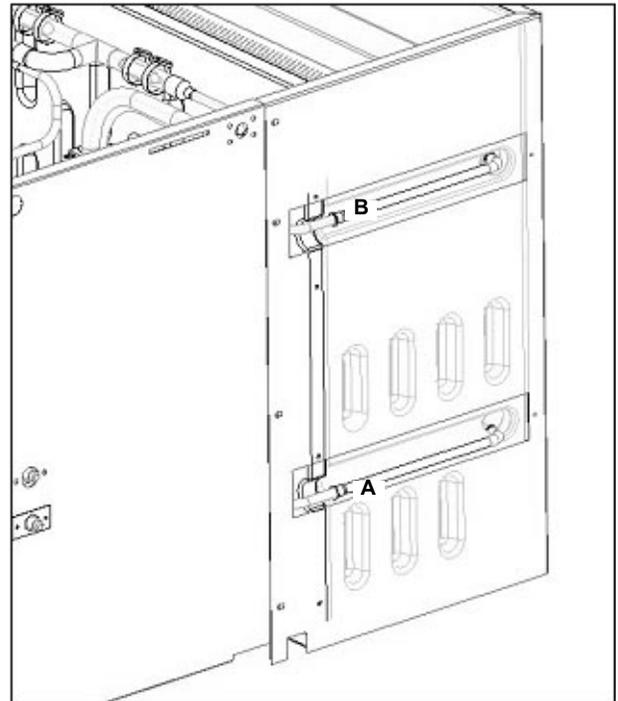

Figure 33.
38. Using clamps or other means, secure the insulation away from the joints, and braze the Heat Exchange Suction Line to the evaporator inlet (A) and outlet (B) (Figure 33).